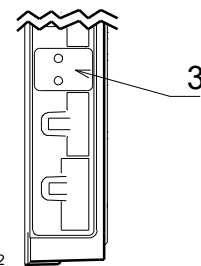

Fig. 26
If the 4-pole socket becomes unhooked, apply the supplied cover, as in Fig. 26.
The socket cover 3)(Fig. 26) must only be removed when the 4-pole socket is in use.
- Bleed the air from the piping of the gas train, connecting a plastic tube to the pressure test point 1)(Fig. 26) of the minimum gas pressure switch. Take the vent tube outside the building so you can notice the smell of gas.